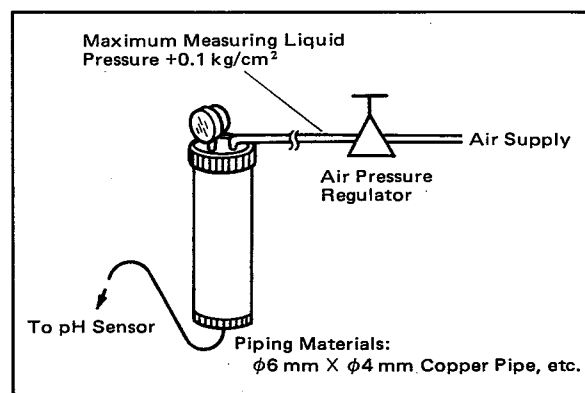

Figure 2-10. Air Piping for Pressurizing Medium Pressure Reserve Tank.
- (3) If specified, a reserve tank containing 250 ml solution and mounting hardware to hold this tank or a medium pressure reserve tank are supplied with the PH8EFG pH sensor. Attach the mounting hardware for general purpose reserve tank to a pipe (nominal diameter 50 mm). Connect the general purpose reserve tank to the KCl solution supply tube of the sensor. Remove the cap from the tank and screw the tube connector securely into the tank. When using a medium pressure reserve tank, attach it to a pipe (nominal diameter 50 mm) and perform air piping to supply pressure for reserve tank as shown in Figure 2-10. Connect the KCl supply tube of the sensor to this reserve tank.